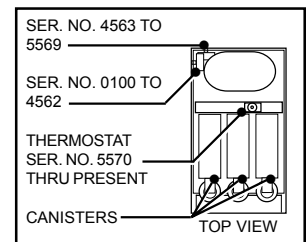

Figure 2a. Thermostat Location, PC-3.
1. Connect a 1/4" copper water line from your facility to the 1/4" flare water inlet fitting (9) of the valve, behind the machine. Water pressure going to the machine must be stable. Use a water regulator to maintain constant pressure. Brewer works perfectly with water pressures from 20 to 80 psi.
- A. On later PC-3 and PC-4 units the thermostat is located behind the canisters. Open the front door (4) and pull out the canisters. The thermostat is on the right side at the back of the canister shelf. The knob will be sticking out from behind the cover.
- B. See Fig. 2a. for the various thermostat locations used on the PC-3.